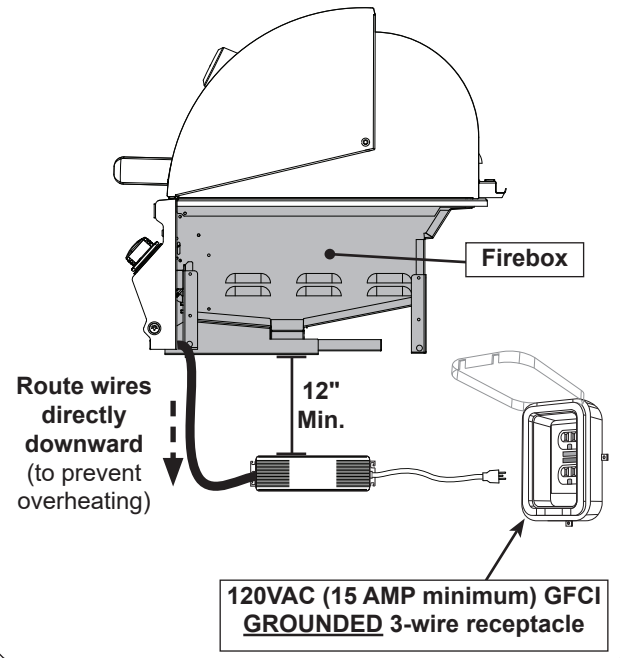

Fig. 26-2 Electrical installation
1. Route the power supply below the control panel and directly downward. This will prevent overheating. **DO NOT** route the harness below the unit firebox. See Fig. 26-2.
- located at least **12"** below the bottom of the unit (see Fig. 26-2)
3. Connect the power cord to a **120VAC (15AMP minimum) GFCI GROUNDED three-wire receptacle** (see Fig. 26-2). The GFCI receptacle must be a WEATHER-PROOF IN-USE COVERED RECEPTACLE.